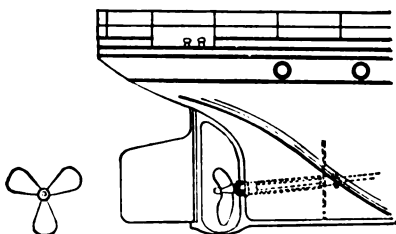

FIG. 35. — Screw propeller.
**propeller** of a boat or flying machine as a screw, but it is. The propeller (Fig. 35), with its two, three, or four blades fastened to one end of the shaft, is driven by an engine at the other end. Its rotation is so rapid that the water has no time to get out of the way, and the propeller screws itself through the water like a wood screw through wood.